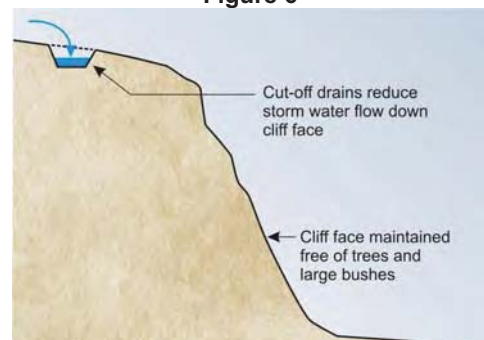

Figure 7
**Cut-off drains** (Figure 7) - can be used to intercept surface water run-off and reduce flows down the cliff face. Suitable drains are often excavated into the rock, or constructed from mounds of concrete, or stabilised soil, depending on conditions. Drains must be laid to a fall of at least 1% so they drain adequately. Frequent inspection is needed to ensure they are not blocked and continue to function as intended.
**Clear trees and large bushes** (Figure 7) - from slopes since roots can prize boulders from the face increasing the landslide hazard.